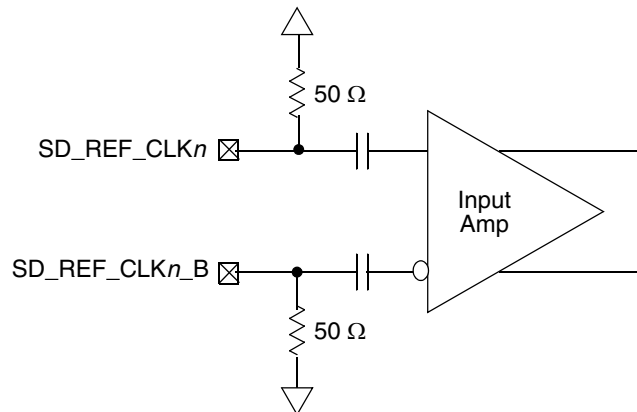

Figure 30. Receiver of SerDes Reference Clocks
- The SD_REF_CLKn and SD_REF_CLKn_B are internally AC-coupled differential inputs as shown in Figure 30. Each differential clock input (SD_REF_CLKn or SD_REF_CLKn_B) has on-chip 50- Ω termination followed by on-chip AC-coupling.